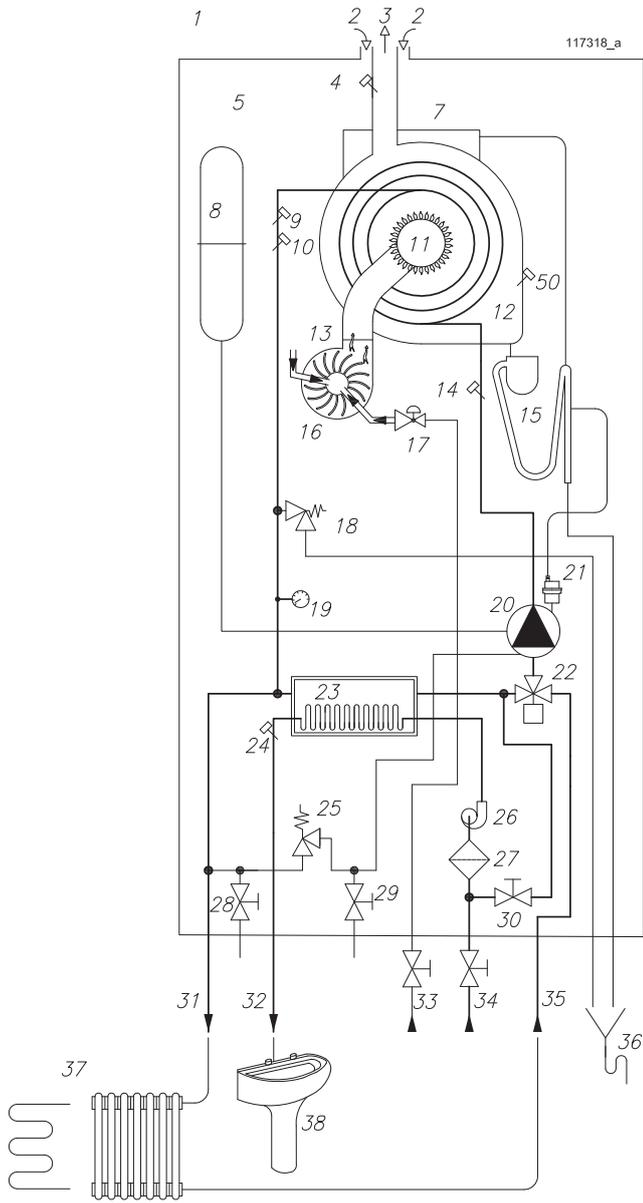

Figure 4-1 – Hydraulic layout
Key for figures 4-1, 4-2, 4-3:
A) - MYDENS -- "P". With this boiler it is possible to create a system to produce instantaneous domestic hot water and a central heating system with the heating elements operating at a temperature between 30°C and 80°C. An example of this type of set-up is given in fig. 4-1.